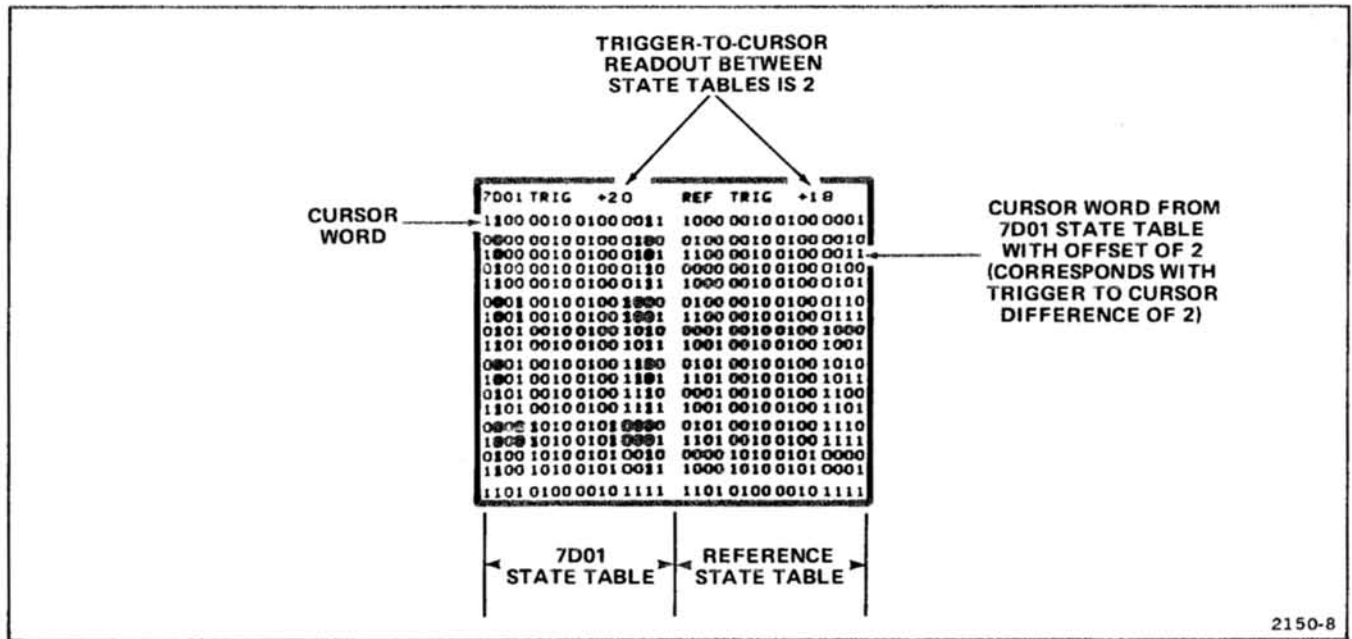

Figure 2-5. Typical state-table display showing offset between the 7D01 and reference state tables.
**REF TABLE HELD.** The HELD mode is functional only when operating in the 7D01  $\oplus$  INTENS REF mode. The reference table cursor location remains at one setting, allowing the cursor location in the 7D01 state table to be moved independently (offset). Refer to Figure 2-5.
**REF TABLE FOLLOWS WITH/OFFSET.** The FOLLOWS WITH/OFFSET mode is functional only when operating in the 7D01  $\oplus$  INTENS REF mode. The difference in cursor location (offset) between the 7D01 state table and the reference state table, is maintained at the time the FOLLOWS W/OFFSET push button is pressed (see Figure 2-5). The offset between the 7D01 and reference state tables remains constant as the 7D01 cursor is moved. To delete the trigger-to-cursor offset, select REF TABLE FOLLOWS 7D01.
if the trigger-to-cursor readout of the state table displays is offset, the 7D01 state table will be transferred to the reference state table with that offset (intensified bits may appear). The tables are equal but offset by the trigger-to-cursor readout (see Figure 2-5). To make the tables equal, either set the 7D01 cursor position controls so that the trigger-to-cursor readout is the same for both state tables or press the REF TABLE FOLLOWS 7D01 push button.